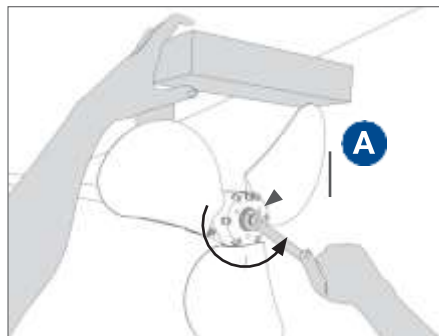
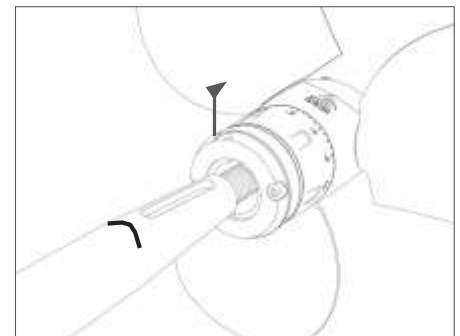

FIG. 10 Unscrew the lock nut
FIG. 11 Take off the propeller from the shaft
- Unscrew the lock nut **A** (**Fig. 10**) and take off the propeller (**Fig. 11**).